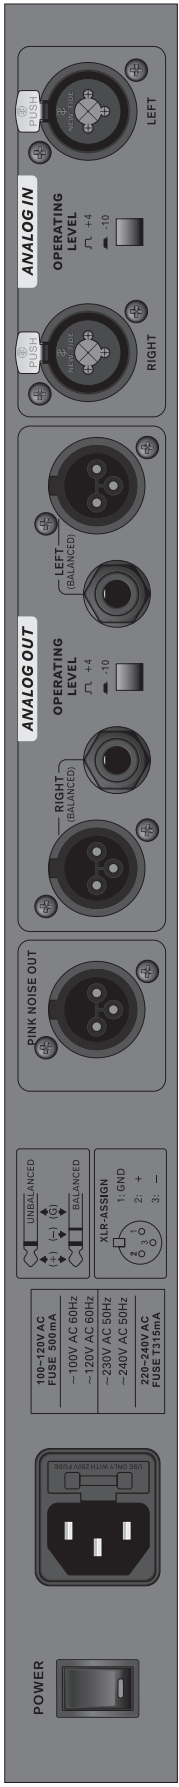

Figure 1 : Front and rear panels
2. Connect the left and right main outputs of your mixer to the **CH 1** and **CH 2 ANALOG IN** of the i7600. See Figure 1 for an illustration of the rear panel.
The most prominent parts on the face the i7600 are the two wide panes of Band Level Display. See Figure 1 for an illustration of the front panel. The left pane is for displaying frequency and level information of Channel 1, and the right pane is for Channel 2. Inside either pane are 30 columns of LEDs that represent the 30 ISO-standard bands of the audio spectrum in 1/3-octave intervals. Directly below every column is a number that indicates the center frequency of the band.